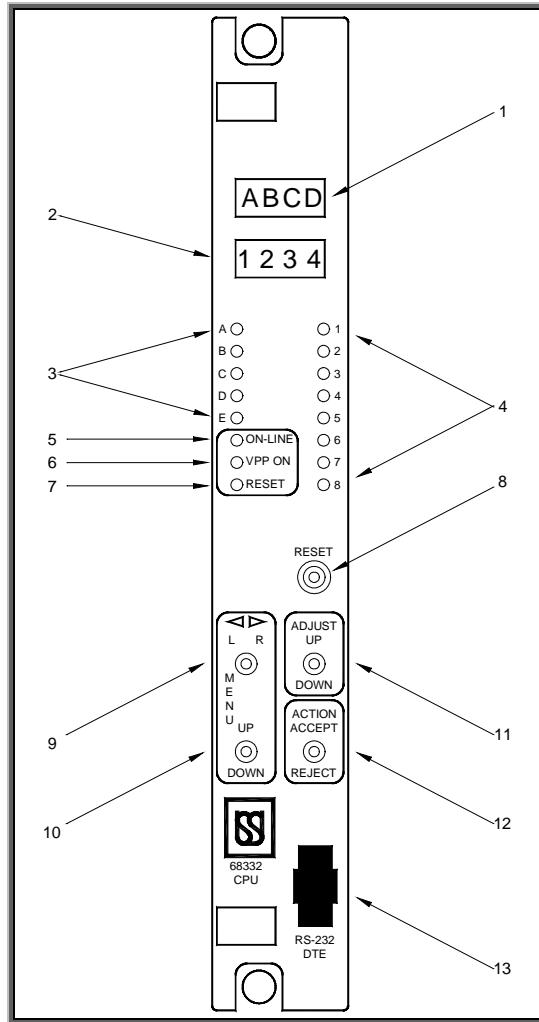

Figure-2.1
2.1 CPU PRINTED CIRCUIT BOARD (Refer Figure-2.1)
- ❖ This action resets the CPU software & VCOR relay and returns the CPU to the on-line mode (assuming that the original cause of the CPS trip is no longer present). Refer the following Figure in conjunction with Figure-2.1.